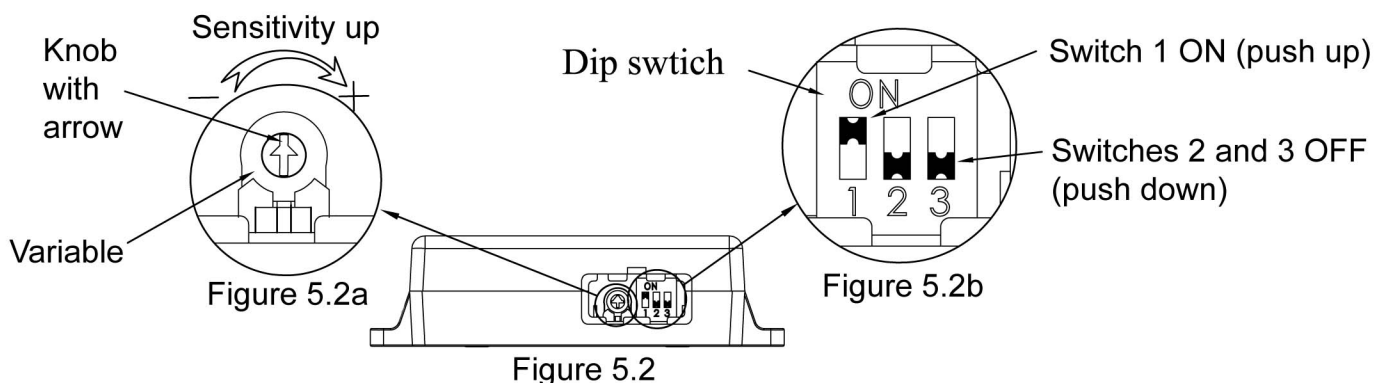

Figure 5.2
2. Rotate clockwise to increase the sensitivity, or rotate counter clockwise to decrease sensitivity (see fig. 5.2 a)